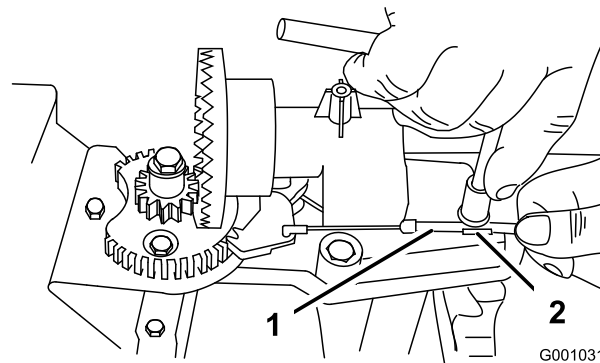
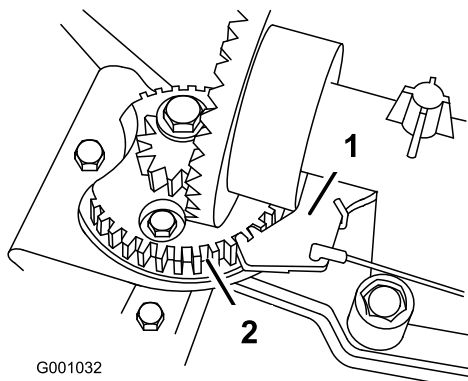

Figure 61
Figure 62
- Loosen the bolt on the cable clamp (Figure 61).
- Grasp the cable conduit and move it toward the front of the machine until the discharge chute latch fully engages the gear teeth (Figure 61 and Figure 62).
Note: The latch is spring loaded and will naturally move into the teeth of the gear (Figure 62).